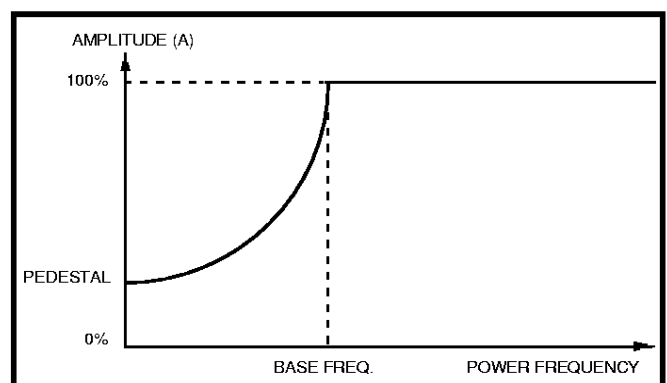

Fig.8 Fan-law characteristic
- The SA808 can calculate the power amplitude as a quadratic function of the instantaneous power frequency using user specified parametrics (see Fig.8). This is most appropriate for fan/pump applications and is usually referred to as fan-law.
Fig.8 shows the Fan-law characteristic implemented in the SA808.